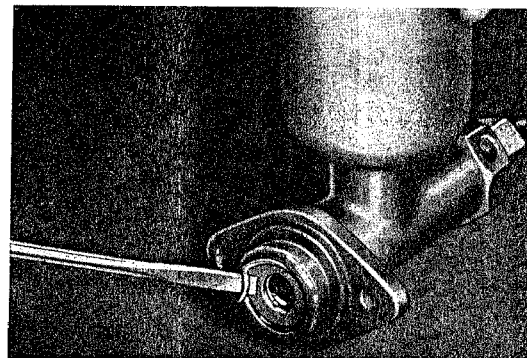

Fig. 9
3. Remove spring for stop plate (see fig. 9).